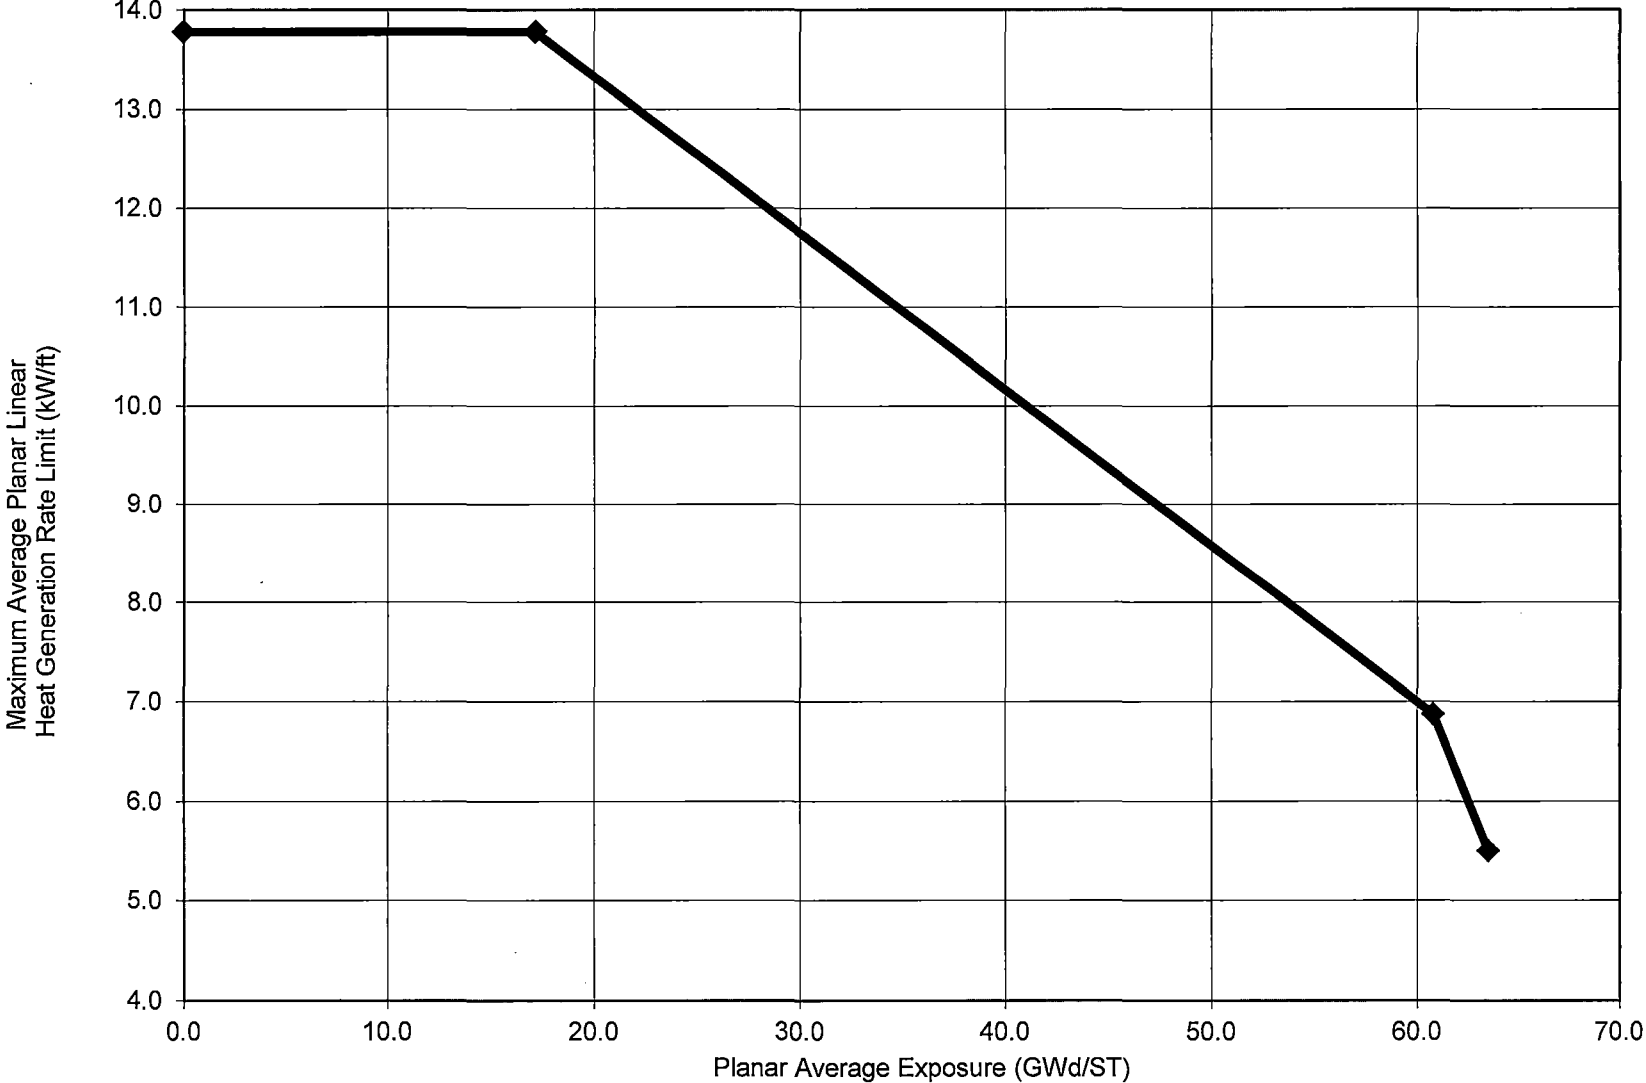
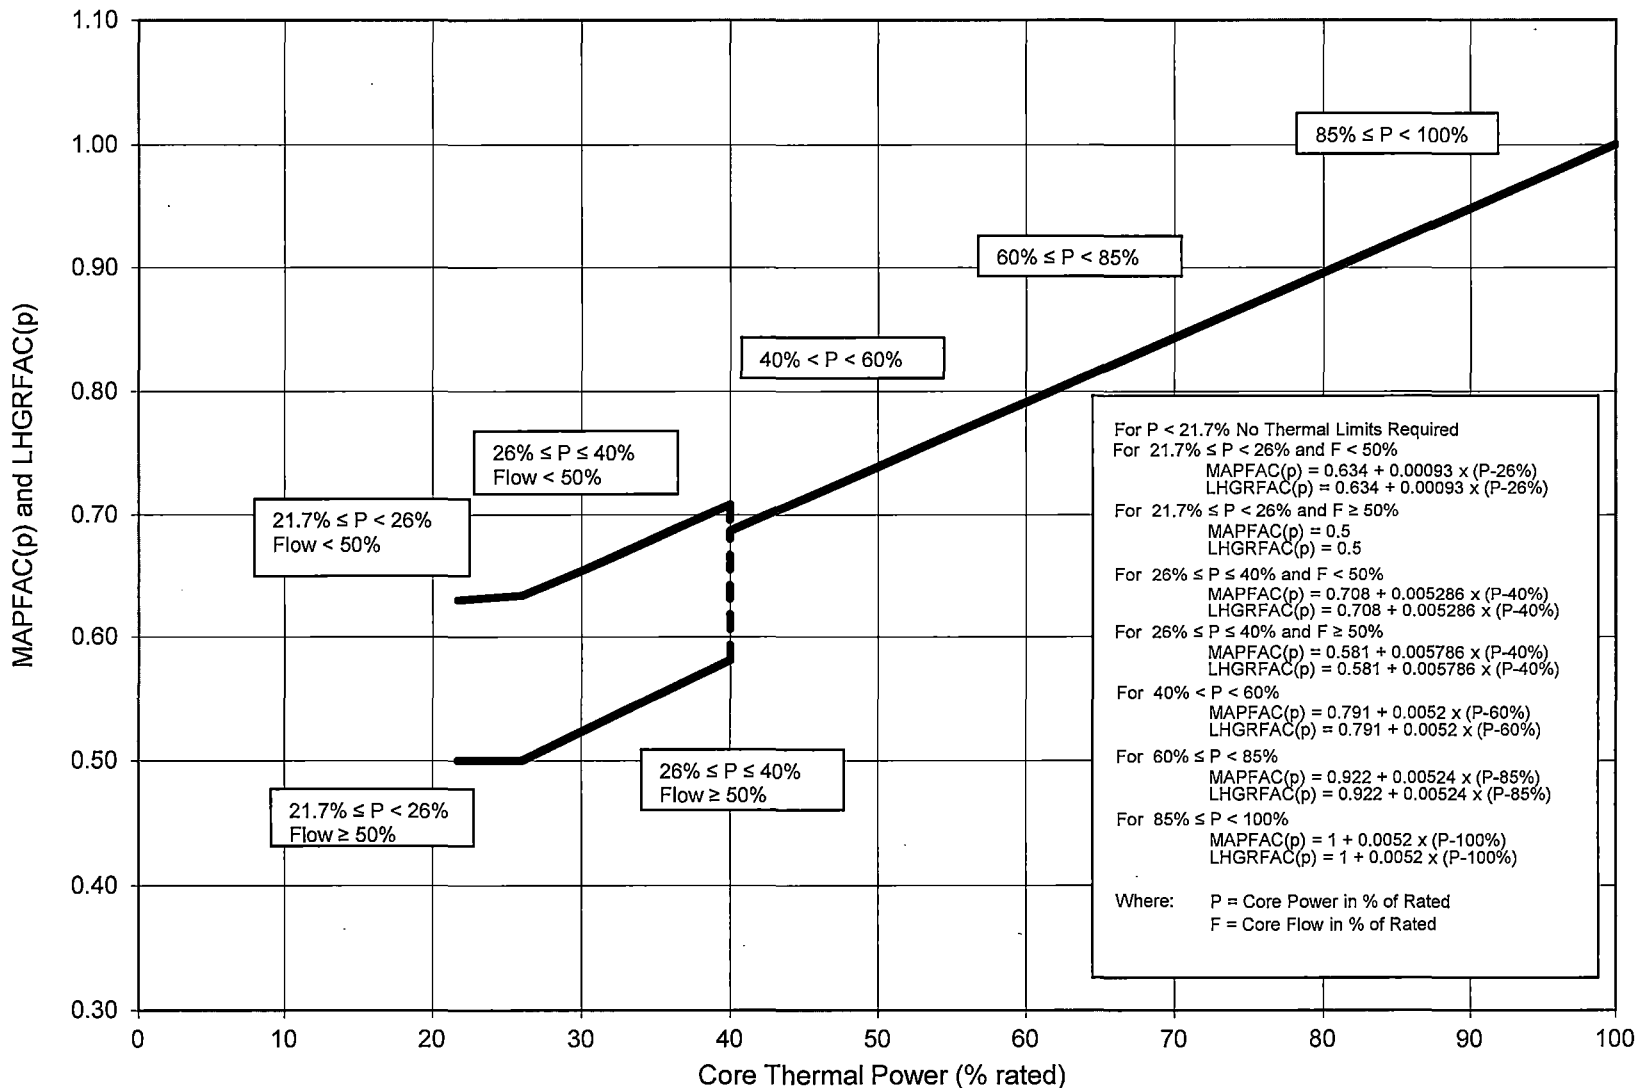
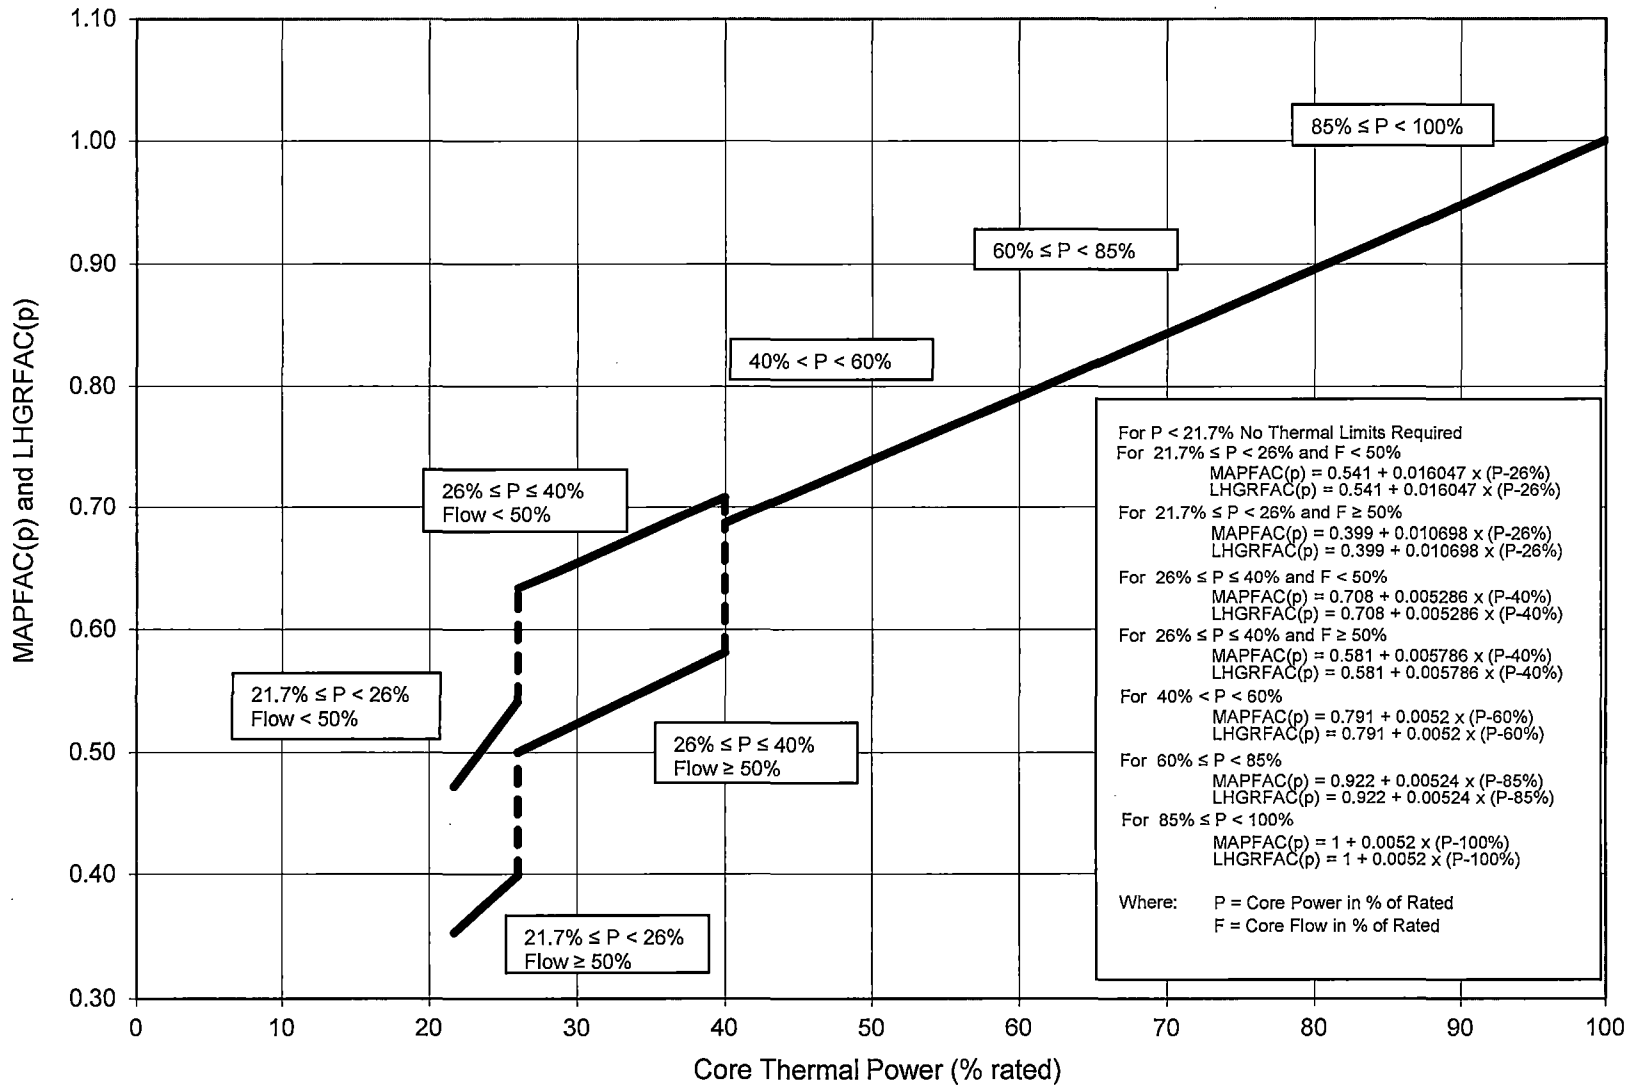
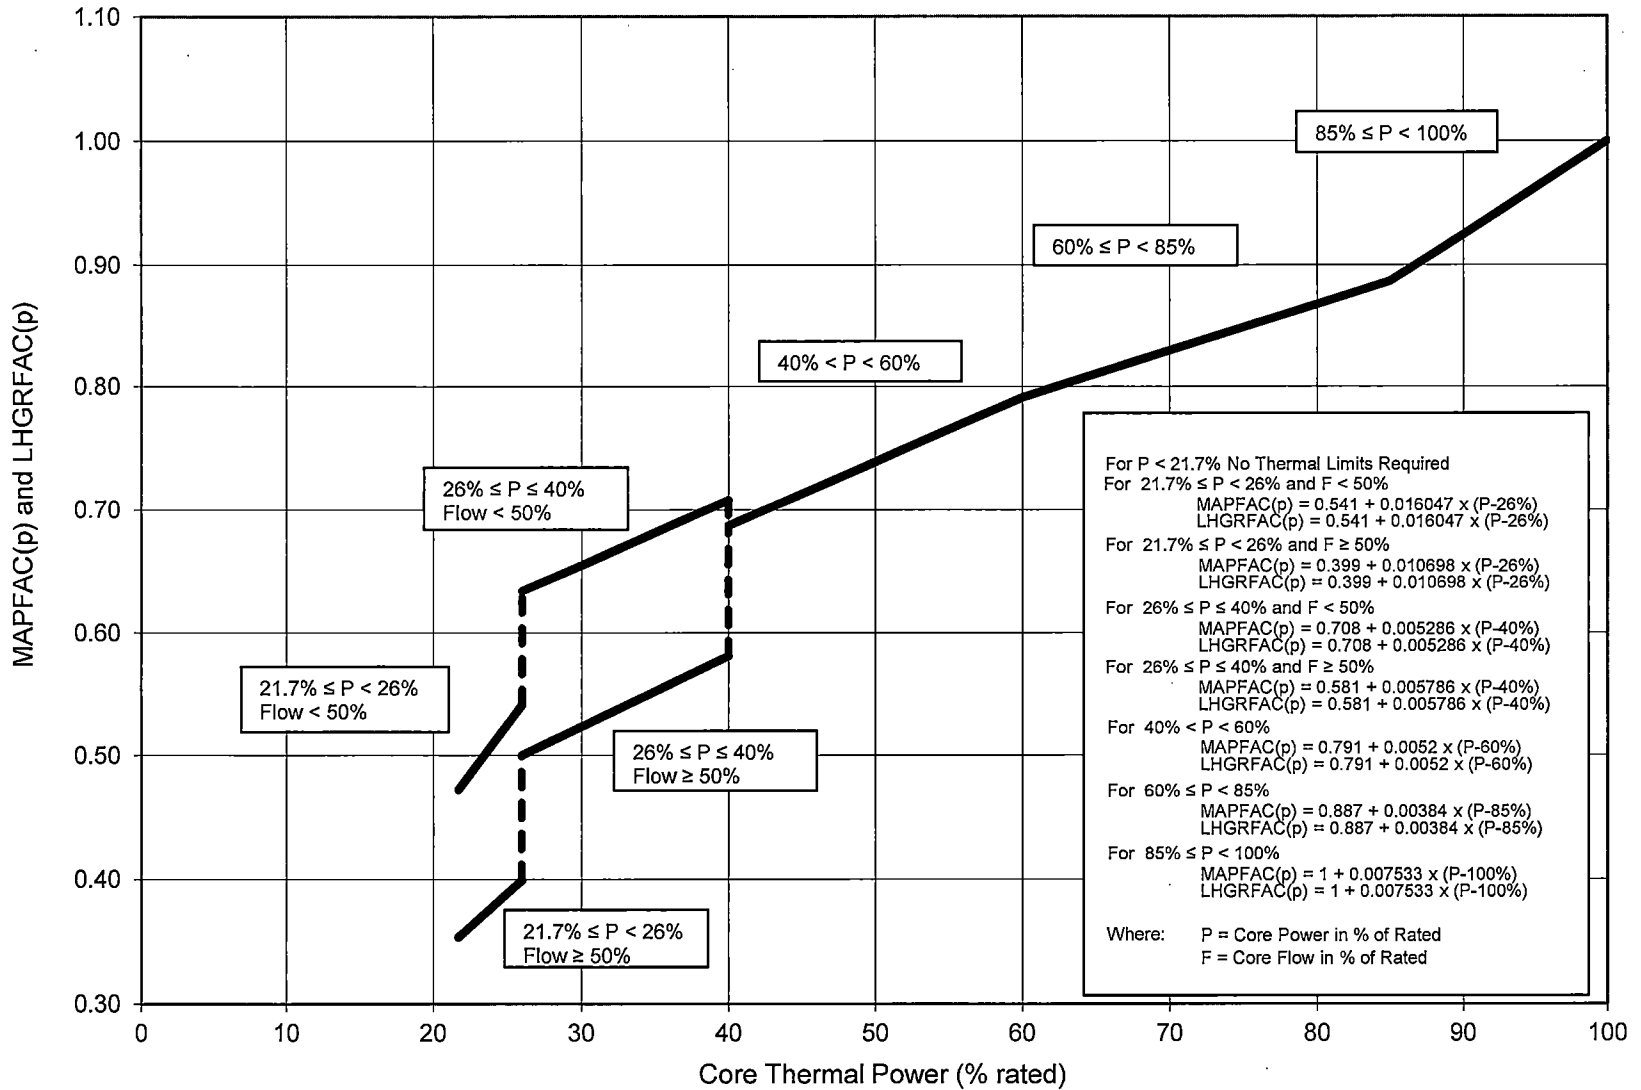

Figure 1
Figure 2a
Figure 2b
Figure 2c
- a. The Maximum APLHGR (MAPLHGR) applicable to all fuel types as a function of Planar Average Exposure (PAE) shall not exceed the limiting curves defined by Table 1, multiplied by the smaller of the two MAPFAC/LHGRFAC factors determined from Figures 2a and 3 [also use Figures 2a and 3 for Recirculation Pump Trip Out-of-Service (RPTOOS); Figures 2b and 3 for Turbine Bypass Valves Out-of-Service (TBVOOS); Figures 2c and 3 for RPTOOS and TBVOOS]. Figure 1 plots the MAPLHGR curve corresponding to Table 1.
- b. The Maximum Linear Heat Generation Rate (MLHGR) applicable to all fuel rods for all fuel types as a function of Peak Pellet Exposure (PPE) shall not exceed the curves defined by Table 2, multiplied by the smaller of the two MAPFAC/LHGRFAC factors determined from Figures 2a and 3 [also use Figures 2a and 3 for Recirculation Pump Trip Out-of-Service (RPTOOS); Figures 2b and 3 for Turbine Bypass Valves Out-of-Service (TBVOOS); Figures 2c and 3 for RPTOOS and TBVOOS].
- c. During Single Loop Operation (SLO), the actual MAPLHGR applicable to all fuel types as a function of planar average exposure shall not exceed the limiting curves defined by Table 1, multiplied by the smaller of the two MAPFAC/LHGRFAC factors determined from Figures 2a and 4 [also use Figures 2a and 4 for Recirculation Pump Trip Out-of-Service (RPTOOS); Figures 2b and 4 for Turbine Bypass Valves Out-of-Service (TBVOOS); Figures 2c and 4 for RPTOOS and TBVOOS].
- d. During Single Loop Operation (SLO), the actual MLHGR applicable to all fuel rods for all fuel types as a function of peak pellet exposure shall not exceed the limiting curves defined by Table 2, multiplied by the smaller of the two MAPFAC/LHGRFAC factors determined from Figures 2a and 4 [also use Figures 2a and 4 for Recirculation Pump Trip Out-of-Service (RPTOOS); Figures 2b and 4 for Turbine Bypass Valves Out-of-Service (TBVOOS); Figures 2c and 4 for RPTOOS and TBVOOS].